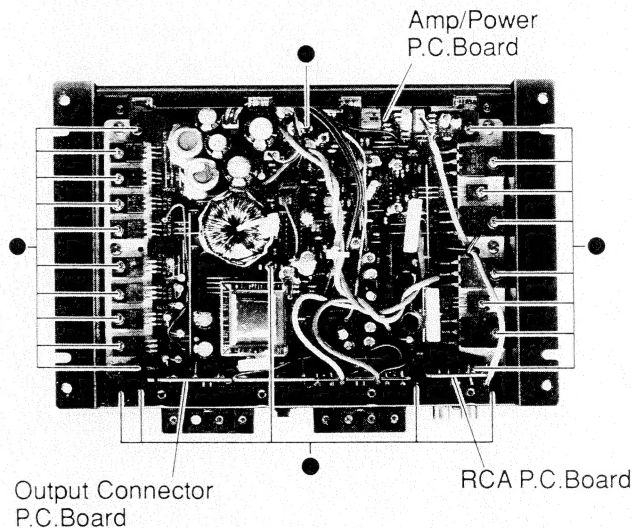

Figure 2
- (1) After removal of the Bottom Cover remove 24 screws marked "●". Then, the Amp/Power P.C.Board will be removed from Heat Sink together with Rear Cover and RCA, Output Connector P.C.Board as shown in Figure 2.